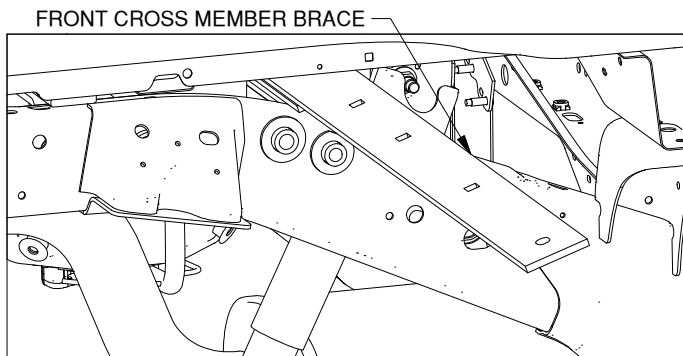

Figure F1: Looking into passenger side wheel well.
- 1. Place front cross member brace.** Locate the front cross member brace. From the passenger side, insert the brace between the bed and frame of the truck in front of the center section, as shown in Figure F1, until it spans the driver and passenger frame rails. The end with the notch will go in first so that it matches up with the notch in the front cross member.